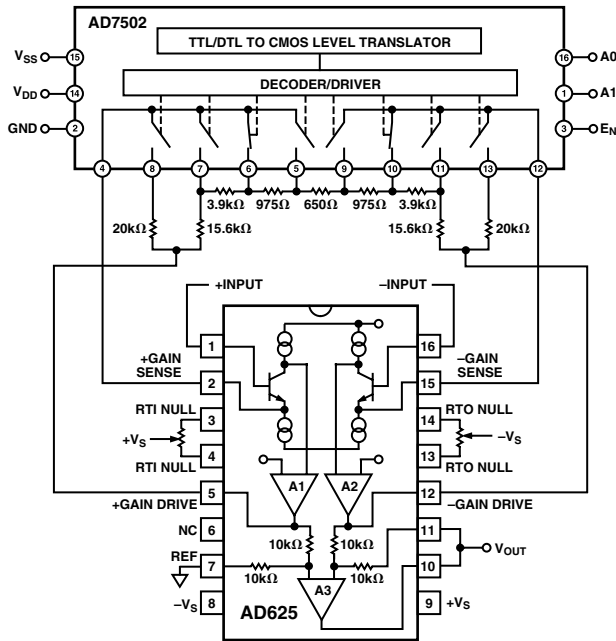

Figure 38. SPGA in a Gain of 16
Figure 38 shows an AD625 based SPGA with possible gains of 1, 4, 16, 64. R_G equals the resistance between the gain sense lines (Pins 2 and 15) of the AD625. In Figure 38, R_G equals the sum of the two 975 Ω resistors and the 650 Ω resistor, or 2600 Ω. R_F equals the resistance between the gain sense and the gain drive pins (Pins 12 and 15, or Pins 2 and 5), that is R_F equals the 15.6 kΩ resistor plus the 3.9 kΩ resistor, or 19.5 kΩ. The gain, therefore equals:
can be used to calculate the necessary feedback resistors for any set of gains. This formula yields a network with a total resistance of 40 kΩ. A dummy variable (j) serves as a counter to keep a running total of the preceding feedback resistors. To illustrate how the formula can be applied, an example similar to the calculation used for the resistor network in Figure 38 is examined below.
- 2) Before making any calculations it is advised to draw a resistor network similar to the network in Figure 41. The network will have $(2 \times M) + 1$ resistors, where M = number of gains. For Figure 38 $M = 3$ (4, 16, 64), therefore, the resistor string will have seven resistors (plus the two 20 kΩ “side” resistors for unity gain).
- 5) If different resistor values are desired, all the resistors in the network can be scaled by some convenient factor. However, raising the impedance will increase the RTO errors, lowering the total network resistance below 20 kΩ can result in amplifier instability. More information on this phenomenon is given in the RPGA section of the data sheet. The scale factor will not affect the unity gain feedback resistors. The resistor network in Figure 38 has a scaling factor of 650/625 = 1.04, if this factor is used on R_{F_1} , R_{F_2} , R_{F_3} , and R_G , then the resistor values will match exactly.